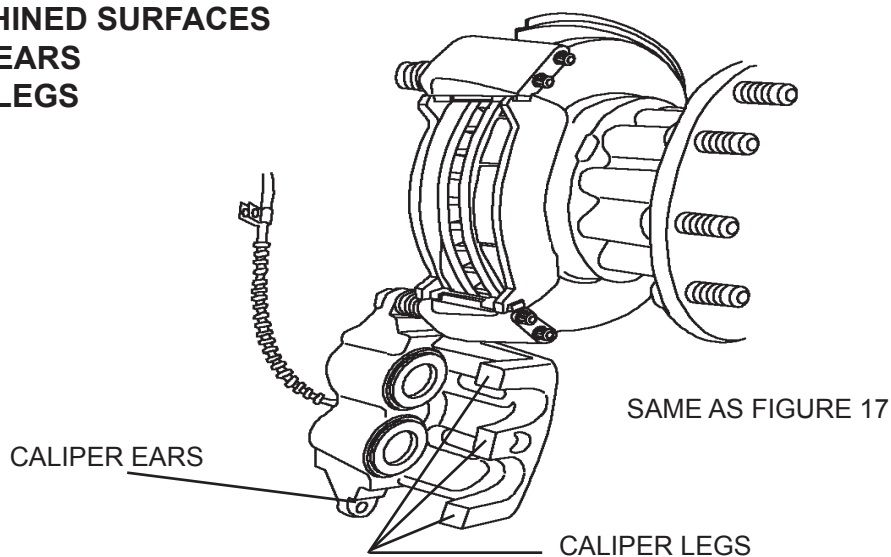
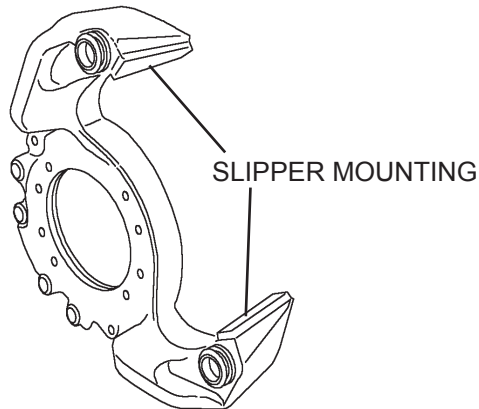

Figure 29. Clean and Inspect Caliper Machined Surfaces
Figure 30. Clean Anchor Plate Machined Surfaces
7. Check the external machined surfaces of caliper, as shown in *Figure 29*. If any rust or contaminants are present, use a hand-held wire brush to clean the surfaces. If any grease or oil is present, use isopropyl or denatured alcohol on a clean shop cloth to remove it. Check slipper mounting, as shown in *Figure 30*, to be sure slippers are securely installed. If damage or defects are found, replace as required.